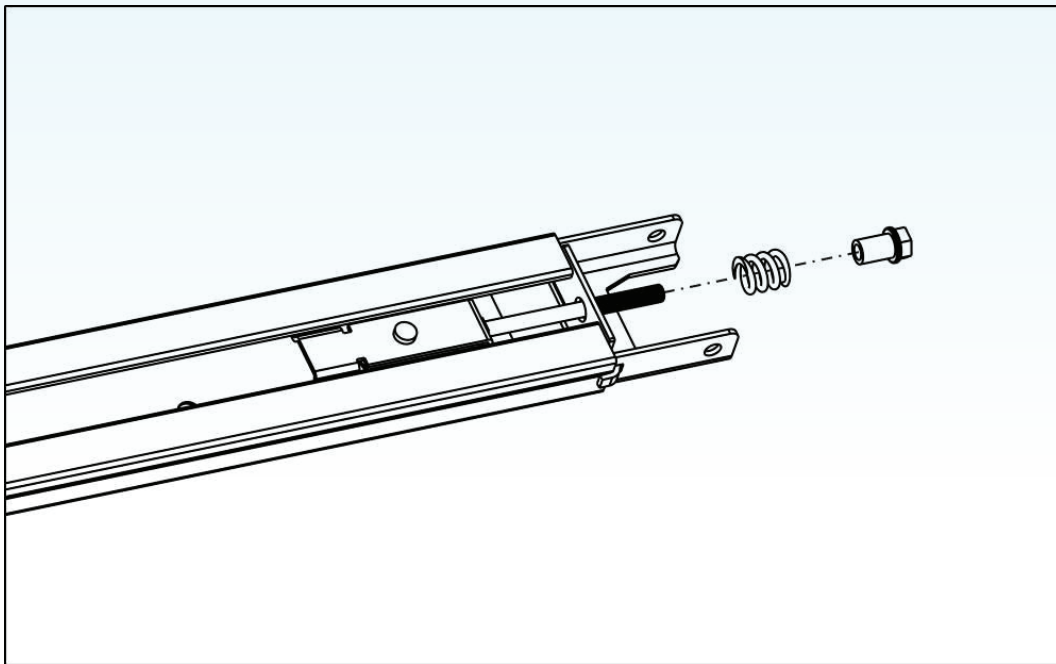

Fig. 13
5. As Fig.13, undo the nut & spring;